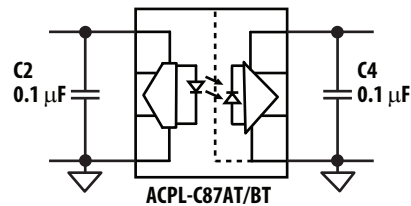

Fig 28. Bypass Capacitors C2, C4
0.1 μF bypass capacitor must be connected as near as possible between V_{DD1} to $GND1$ and V_{DD2} to $GND2$ (Figure 28).